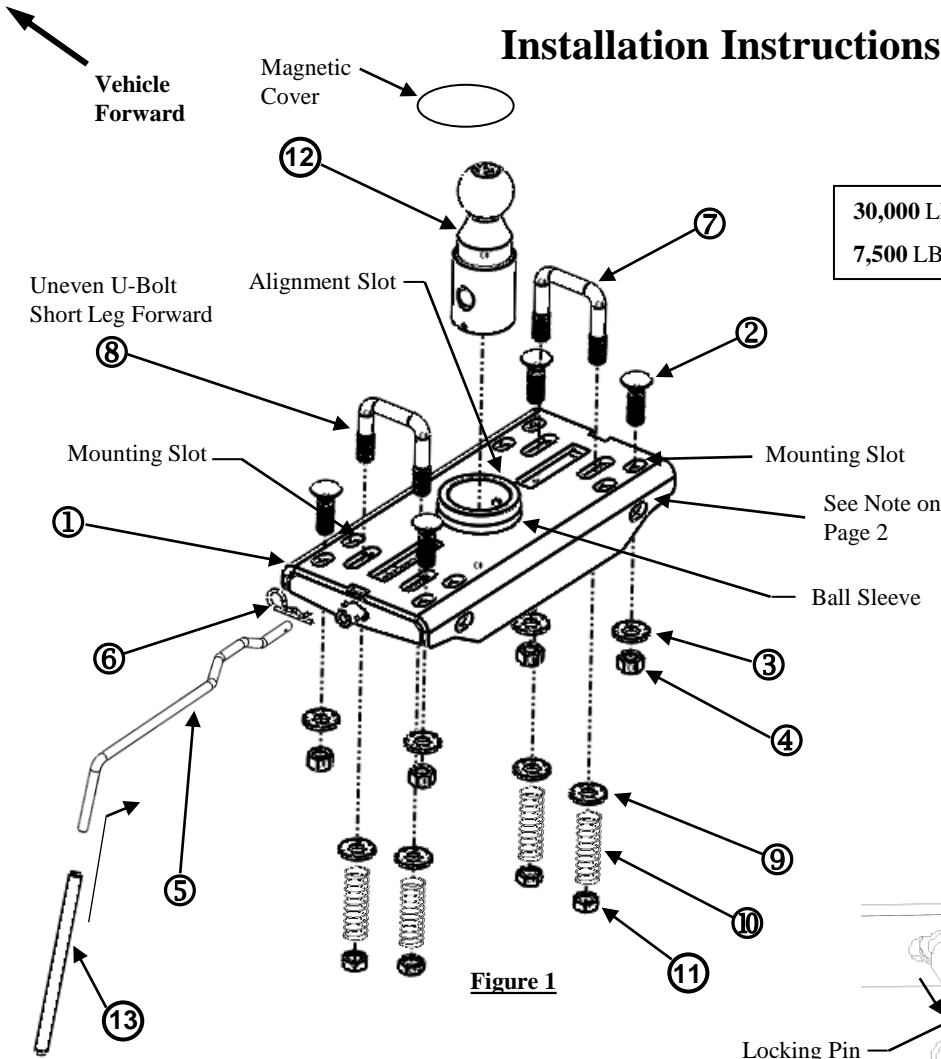

Figure 1
- From under the truck, install the conical toothed washers, U-Bolt springs, and 5/8" lock nuts (see figure 1 and 2). Before tightening lock nuts, lift U-bolts up and down to assure smooth operation. If not, then enlarge holes, as necessary. Tighten nuts so a minimum of 3 threads are showing passed the nuts.
- NOTE: If not installing head on Horizon Global manufactured mounting kit, secure the hitch to your mounting system using the four holes in the front and back of the hitch and four 5/8" (grade 8) bolts (not provided). See figure 1. This is in addition to the four vertical bolts provided in the kit and will allow you to obtain the maximum head rating of 30,000 lbs. GTW / 7,500 TW lb.**